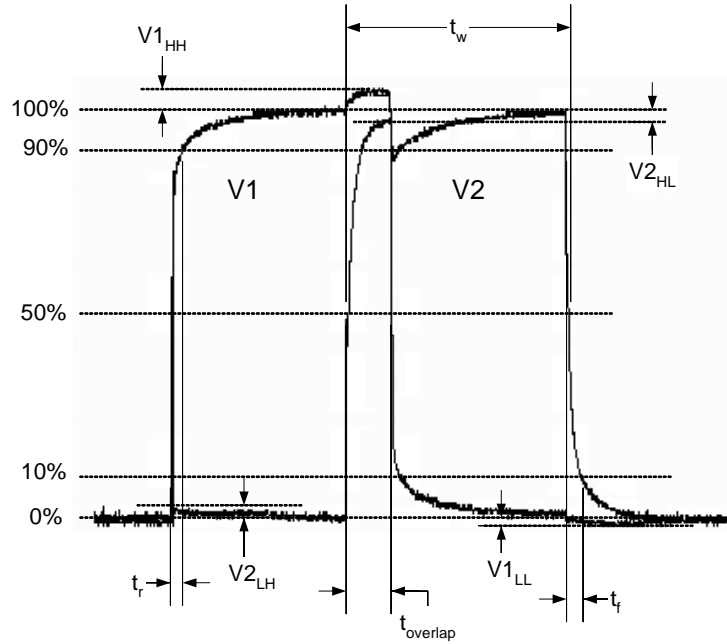

Figure 14: Transfer Timing Edge Alignment
5.0	<ul style="list-style-type: none"> Page 3 charge capacity values updated based on characterization data . Page 4 pinout table corrected for labeling of VIDLBE (pin 42) and VIDLB0 (pin 40). Page 5 schematic clarified for readability. Page 21 timing labels changed to reflect TG1C and TG2x level variations. Levels and values did not change. Removal of package drawing. Updated exposure control features to include the luma channel. Finally, page 28, (%) description added to linearity chart to clarify units. Sensitivity test added to Image Specification table. Page 4 LOGL (pin 24) added to table and diagram. Page 6 description of die center added to last paragraph. Page 11 20mV max for chroma and 17mV max for luma added to exposure defect described in note 13. Page 20 correction to signal names TG1C, TG2x in table. Page 23 5ns nominal reset pulse width added to table. Page 25 Figure 14 updated to use same name as Figure 10 for reset pulse width, tRGw